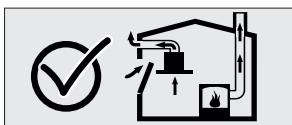

Fig. 4
- Therefore, adequate fresh air ingress must always be ensured. (Fig. 4)
Absorbed air is cleaned by oil filters and expelled via a pipe system. (Fig. 4)